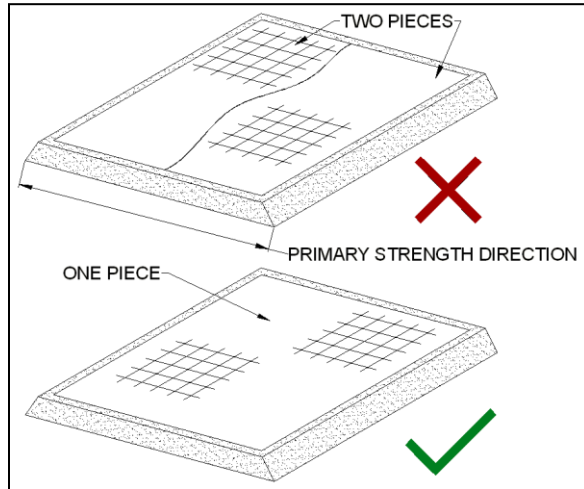

Figure 1
- Do not piece together separate sheets in the primary strength direction through any mechanical connection unless directed by Engineer. Each sheet should be installed as one continuous piece, extending the full length of the area. (Figure 1)